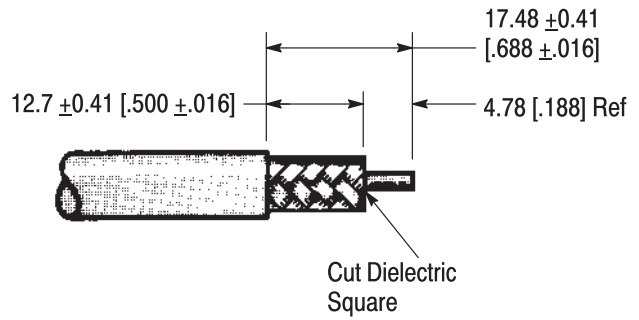

Figure 4
- Slide ferrule on cable, then strip cable to dimensions provided in Figures 4 thru 6. Do NOT comb braid. Crimp center contact. Refer to tooling instruction sheets referenced in Figure 1.